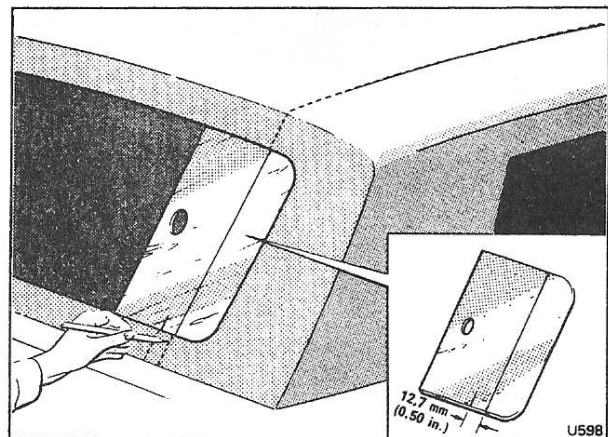

Fig. S92 Locating the position of the Everflex centre panel from the roof panel styling lines
4. Using a soft pencil, extend the roof panel styling line up to the rear window aperture (see Fig. S92) and the windscreen aperture.
5. Fit a template into the side of the rear window aperture (see Fig. S92). Ensure that the line on the template runs vertically when the template is placed in the aperture.
Align the template line with the pencil line marked on the roof panel then, extend the lines onto the panel below the aperture (see Fig. S92).